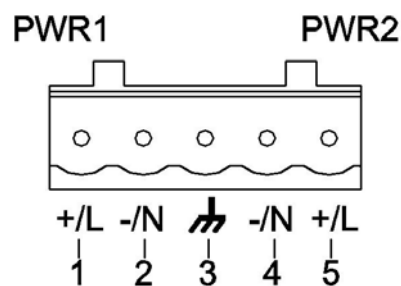

Figure 15 Pin 5.08mm Power Terminal Block
- 5.08mm power terminal block pin number is shown in Figure 15